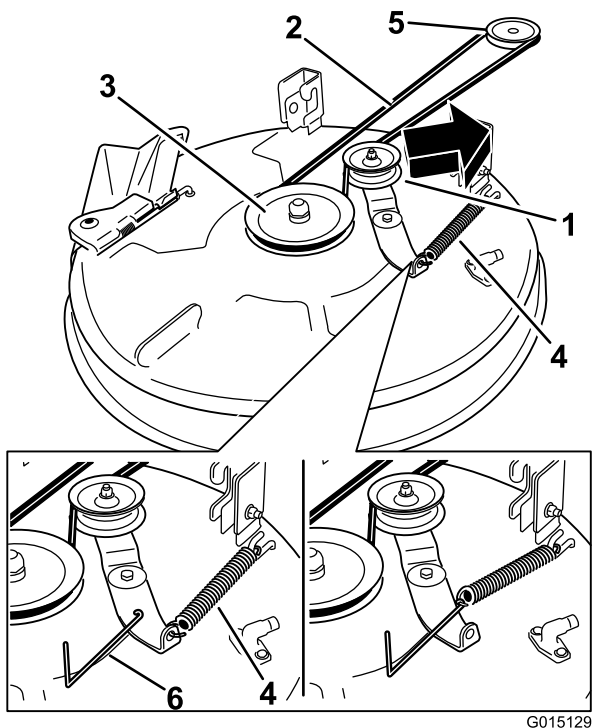

Figure 55
4. Using a spring-removal tool (Toro Part No. 92-5771), remove the idler spring from the deck hook to remove tension on the idler pulley, and roll the belt off of the pulleys (Figure 55).
5. Route the new belt around the engine pulley and mower pulleys (Figure 55).
6. Using a spring removal tool (Toro Part No. 92-5771), install the idler spring over the deck hook and placing tension on the idler pulley and the mower belt (Figure 55).